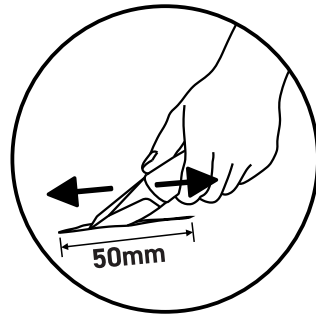

Fig 14 - Extend the hole to around 50mm
2. The hole needs to be large enough to accommodate the second half of the seal. The seal requires a minimum of 50mm clearance. If the hole is not larger enough, expand the hole until it is large enough for the seal, about 50mm (Fig 14). The maximum hole that can be sealed is 90mm.